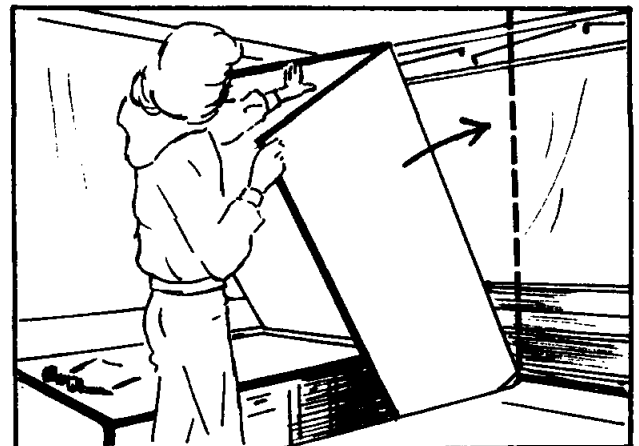
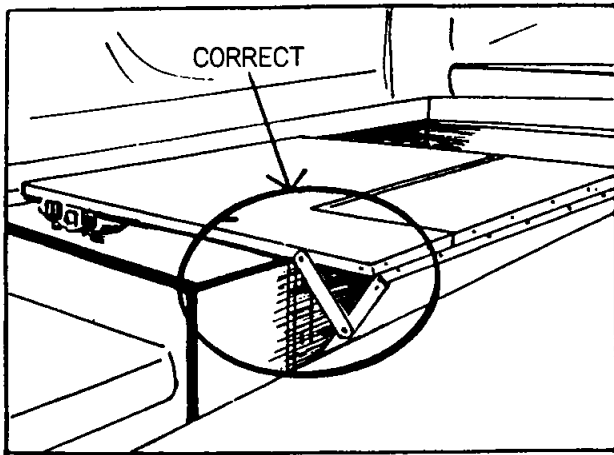

FIGURE 38
FIGURE 39 - CORRECT
25. With the wall door closed, fold the right side of the wall towards the center and gently lower wall assembly on the counter top. Note Figures 38 and 39. Lock wall brace to folding section of wall at this point. See Figure 39.